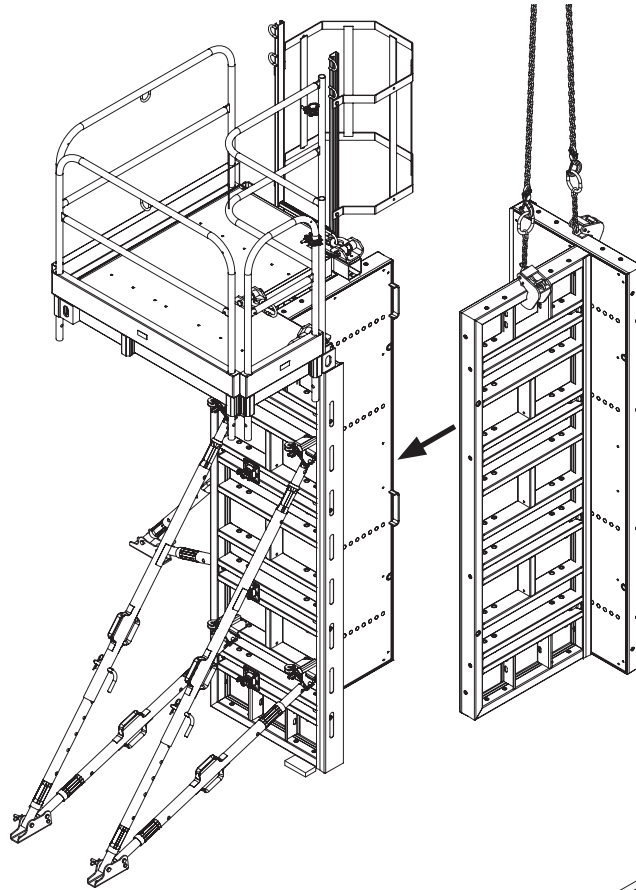

Fig. A4.04
3. Position the formwork half. (Fig. A4.04)